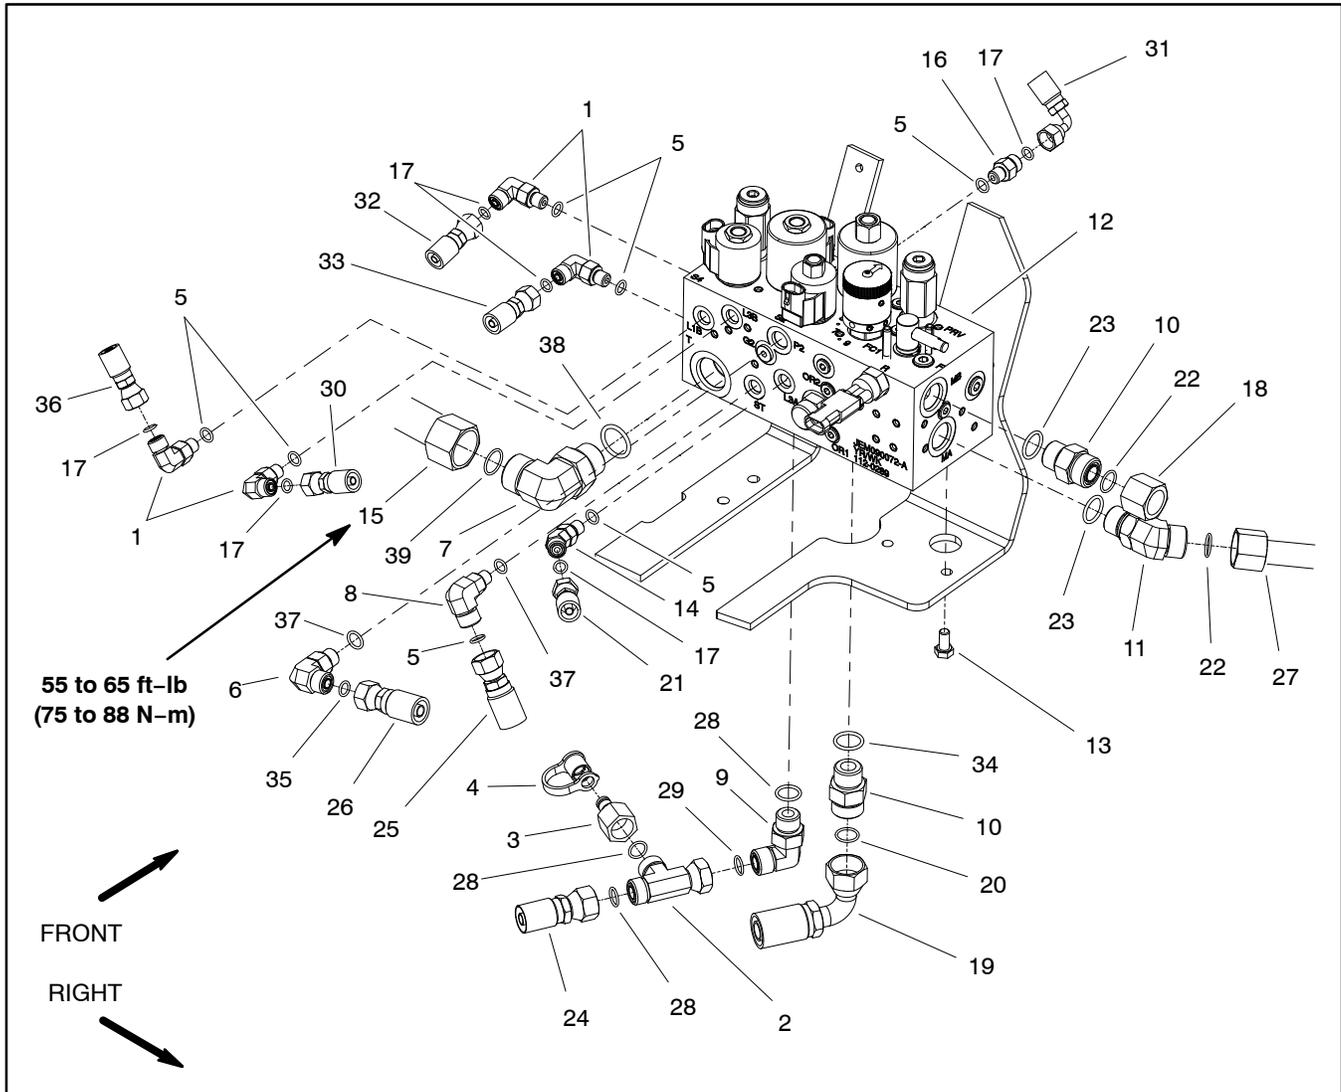

Figure 66
Removal (Fig. 66)
Installation (Fig. 66)
1. Install hydraulic fittings and their respective O-rings to the manifold assembly and orient to position recorded during removal. Torque fittings to the values identified in Figure 66.
2. Position manifold assembly to the support frame. Secure assembly to the frame with two (2) cap screws (item 13).
A. When installing hydraulic tube (item 15) to 90° hydraulic fitting in manifold port T, torque tube from **55 to 65 ft-lb (75 to 88 N-m)**.